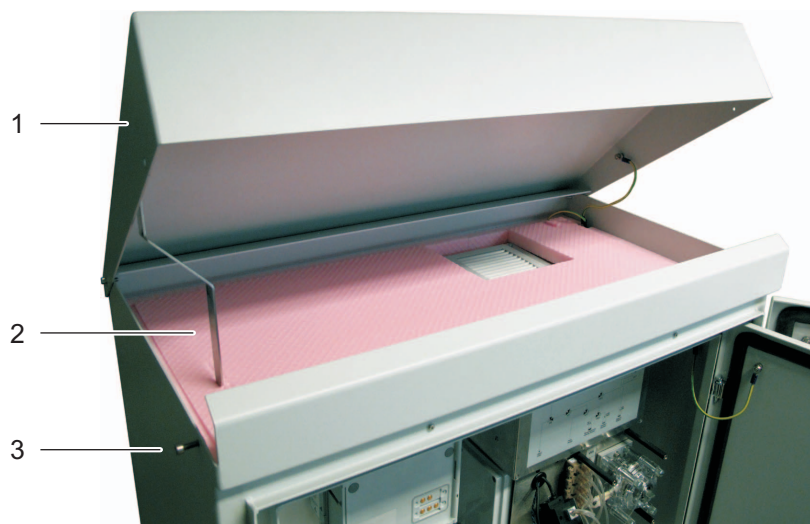

Fig. 5-6: Opening the housing lid
- 2** Open the housing lid upward and fix it with the bearer. See Fig. 5-6, 80.